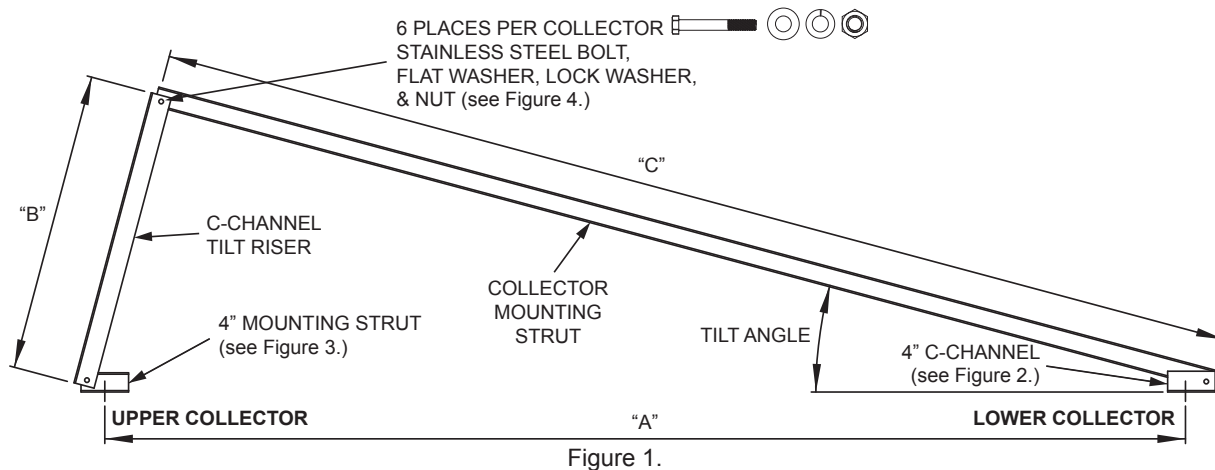

Figure 1.
Locate the mounting points for the mounting brackets per Figure 1 & Table 1. Layout the roof as specified in the solar installation manual or the optional solar collector mounting kit being used. Keep in mind the "A" dimension listed in Table 1 when marking the mounting points.
2. Install the 4" mounting bracket strut to the upper collector mounting location with the stainless steel fasteners included with your solar collector crate package or other optional solar collector mounting kit. See Figure 1 for placement of mounting bracket strut.
3. Install the 4" C-Channel mounting bracket to the lower collector mounting location with the stainless steel fasteners included with your solar collector crate package or other optional solar collector mounting kit. See Figure 1 for placement of C-Channel mounting bracket.
4. Locate the C-Channel Tilt Riser included with your kit. Install this to the upper 4" Mounting strut with the included stainless steel hex bolt, flat washer, lock washer, and hex nut. See Figures 1 & 3.
6. Install the other end of the collector mounting strut to the upper end of the C-Channel Tilt Riser with the included stainless steel hex bolt, lock washer, flat washer, and hex nut. See Figures 1 & 4.